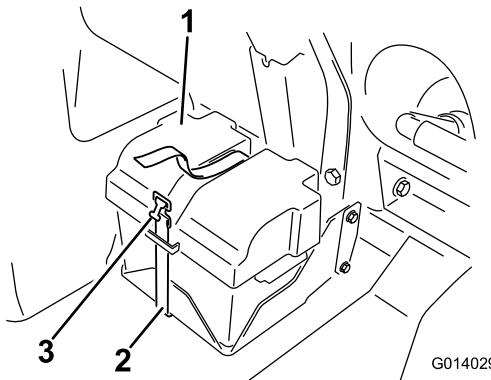

Figure 89
- Remove the battery cover and disconnect the negative (black) ground cable from the battery post (Figure 89).
4. Install the battery cover and secure it with the strap that you removed previously (Figure 89).